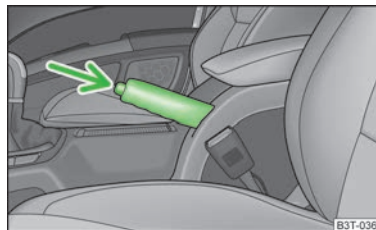

Fig. 116
- Pull the handbrake lever up slightly and **at the same time** push in the locking button » Fig. 116.